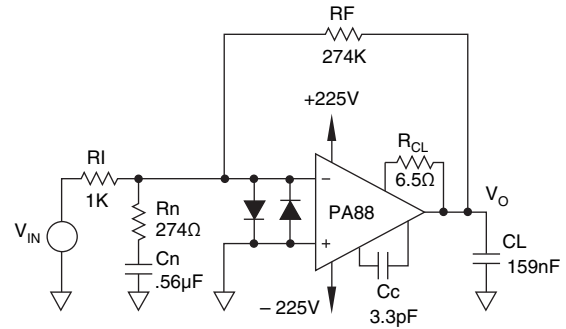
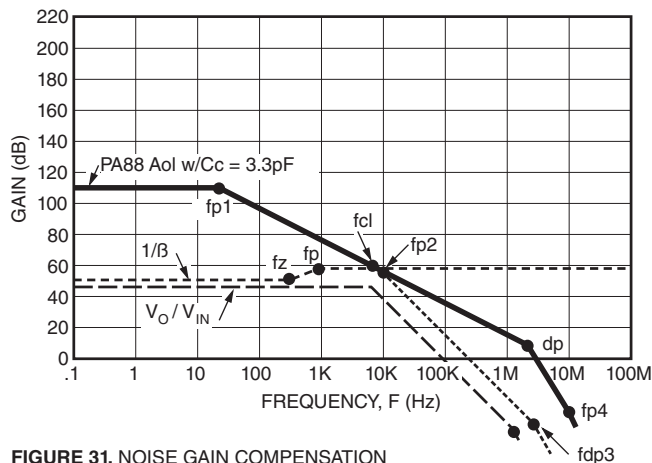
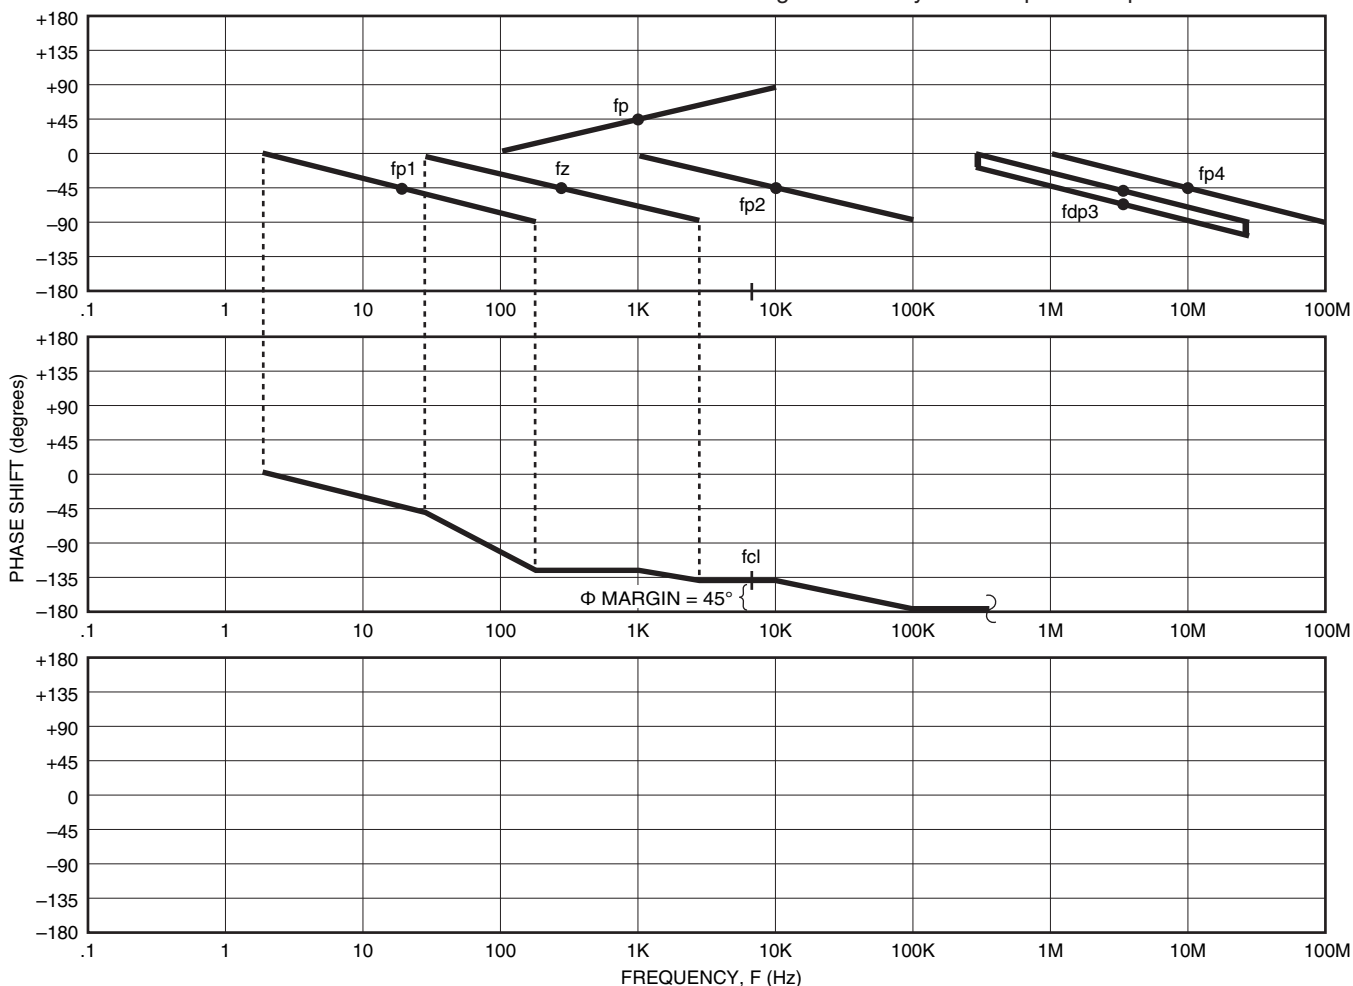

FIGURE 30. NOISE GAIN COMPENSATION FOR CL
FIGURE 31. NOISE GAIN COMPENSATION MAGNITUDE PLOT FOR STABILITY
FIGURE 32. NOISE GAIN COMPENSATION OPEN LOOP PHASE PLOT FOR STABILITY
Figure 30 illustrates a circuit utilizing noise gain compensation for stability when driving a capacitive load. Figure 31 is our magnitude plot to work with for stability.
STEP 1: Modify the PA88 Aol due to CL. Here we use the output impedance number for the PA88 of $R_o = 100$ ohms. The higher frequency poles of the unmodified PA88 Aol must be added into the modified Aol as shown in Figure 31.
STEP 4: Plot open loop phase plot as in Figure 32 from the information given in Figure 31. We see from this plot we have 45 degrees of phase margin.